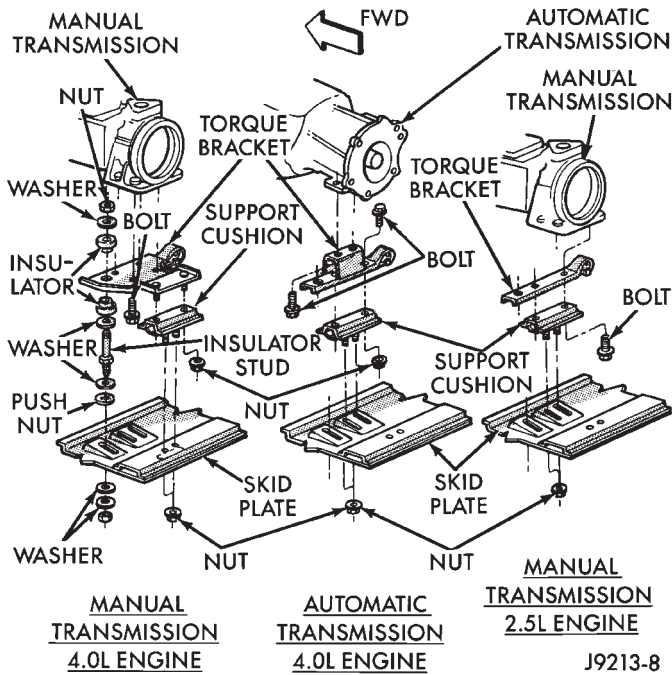

Fig. 5 Transfer Case Skid Plate
- (1) Raise and support the transmission.
- (2) Remove the nuts that attach the transmission support cushion and torque bracket to the skid plate (Fig. 5).
- (3) Separate the transmission support cushion from the skid plate.
- (4) Remove the nuts and bolts that attach the skid plate to the frame.
- (5) Remove the skid plate from the vehicle.